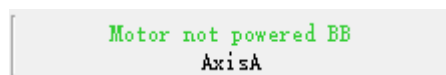

Figure 4-7
- 4) Figures 4-7 and 4-8 show the servo drive in the Disabled and Enabled states, respectively.